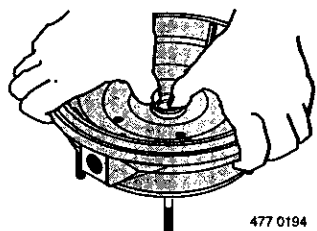
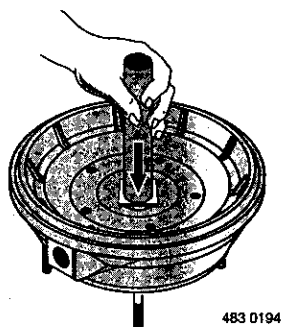

Figure 7A
Figure 7B
- With finger pressure press seat firmly and squarely into cavity. See Figure 7A. Polished face of seat faces inside of pump. If seat will not locate properly, place cardboard washer over polished face and use piece of 3/4" standard pipe for pressing purposes. See Figure 7B.